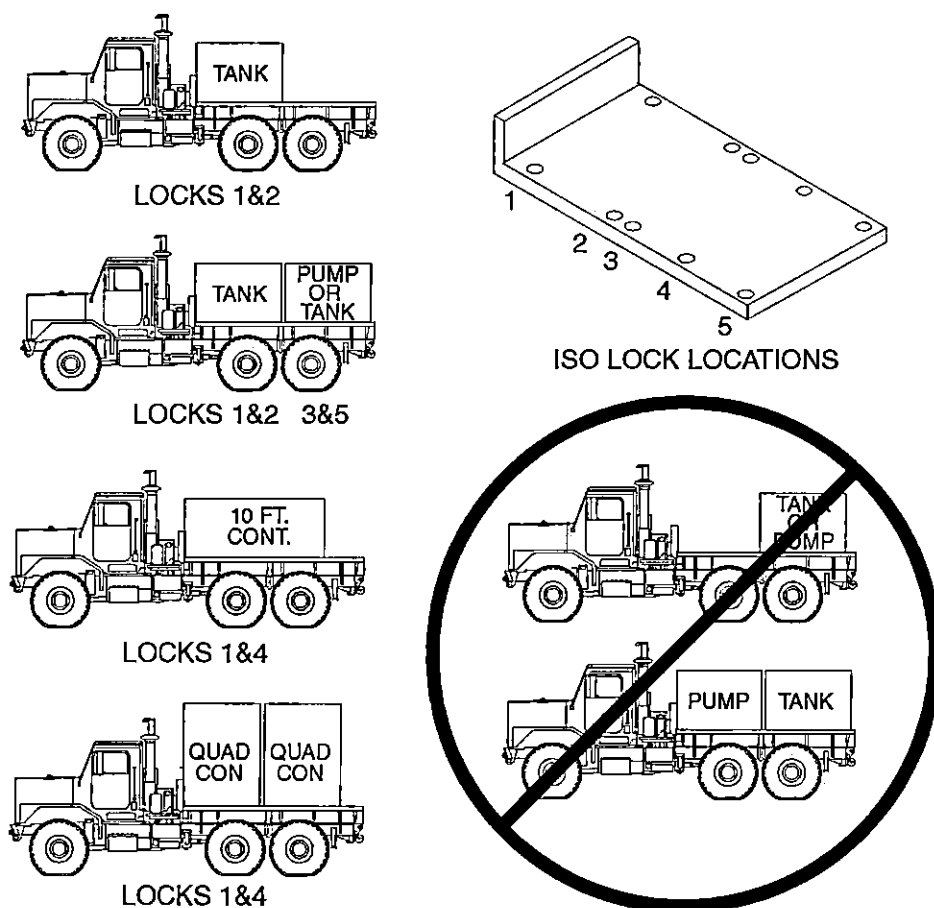

Figure 1. Standard Wheel Base Cargo (MK23 and MK25).
1. Distributed Payload. The vehicle is capable of carrying 7.1 tons (6,447 kg) off road and 15 tons (13,620 kg) on road. Payload center of gravity shall be placed at the approximate center of the useable cargo area. (Refer to Figure 1).